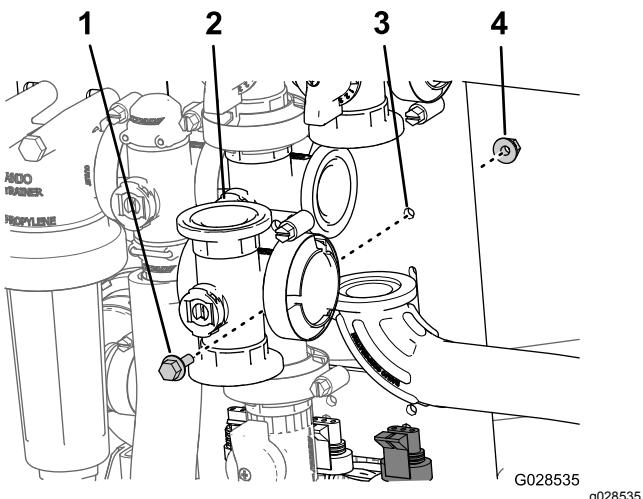

Figure 93
- Remove the flanged-head bolt and flanged locknut that secure the master boom valve to the valve mount and remove the valve manifold from the machine (Figure 93).